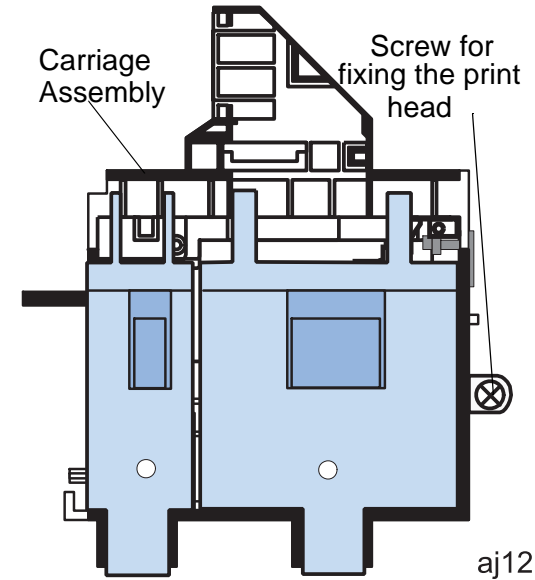

Figure 5-4. Screw position for fixing the print head
3. Loosen the screw fixing the print head. (See Figure 5-4, "Screw position for fixing the print head")